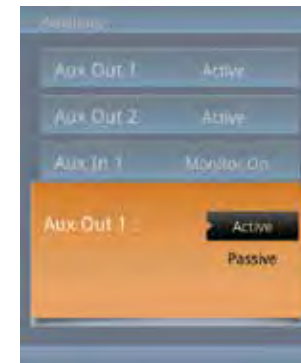

Fig 5.10-1
- From the Auxiliary menu, use the ▲ or ▼ keys to highlight the “Aux Out 1” or the “Aux Out 2” menu option. Touch **OK** to pop up the interface shown in **Fig 5.10-1**.